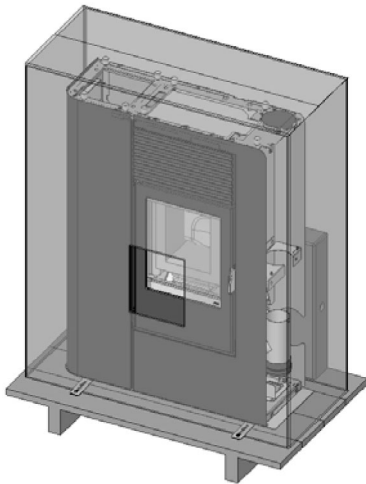

FIGURE 1 - STOVE PACKAGING (front view)
- The first contains the stove (fig. 1).